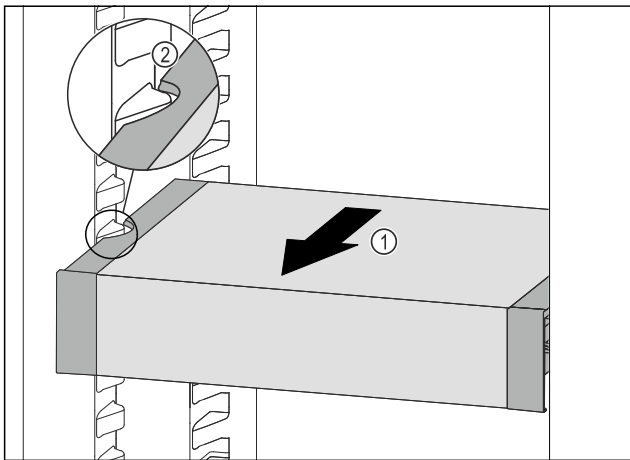

Fig. 209
- ▶ Pull VarioSafe forwards Fig. 209 (1) until the recesses in the side of the VarioSafe are at the level of the support rib in the fridge section. Fig. 209 (2)